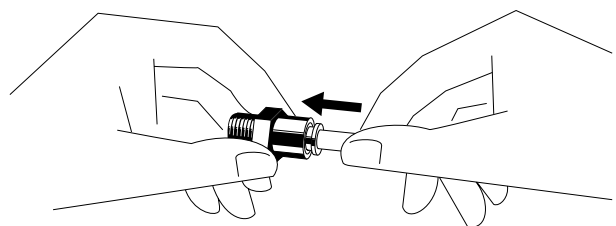

Figure 12
6. The pneumatic tubes can be refitted (see b) "Refitting the pneumatic tubes", page 11 - Fig. 12).